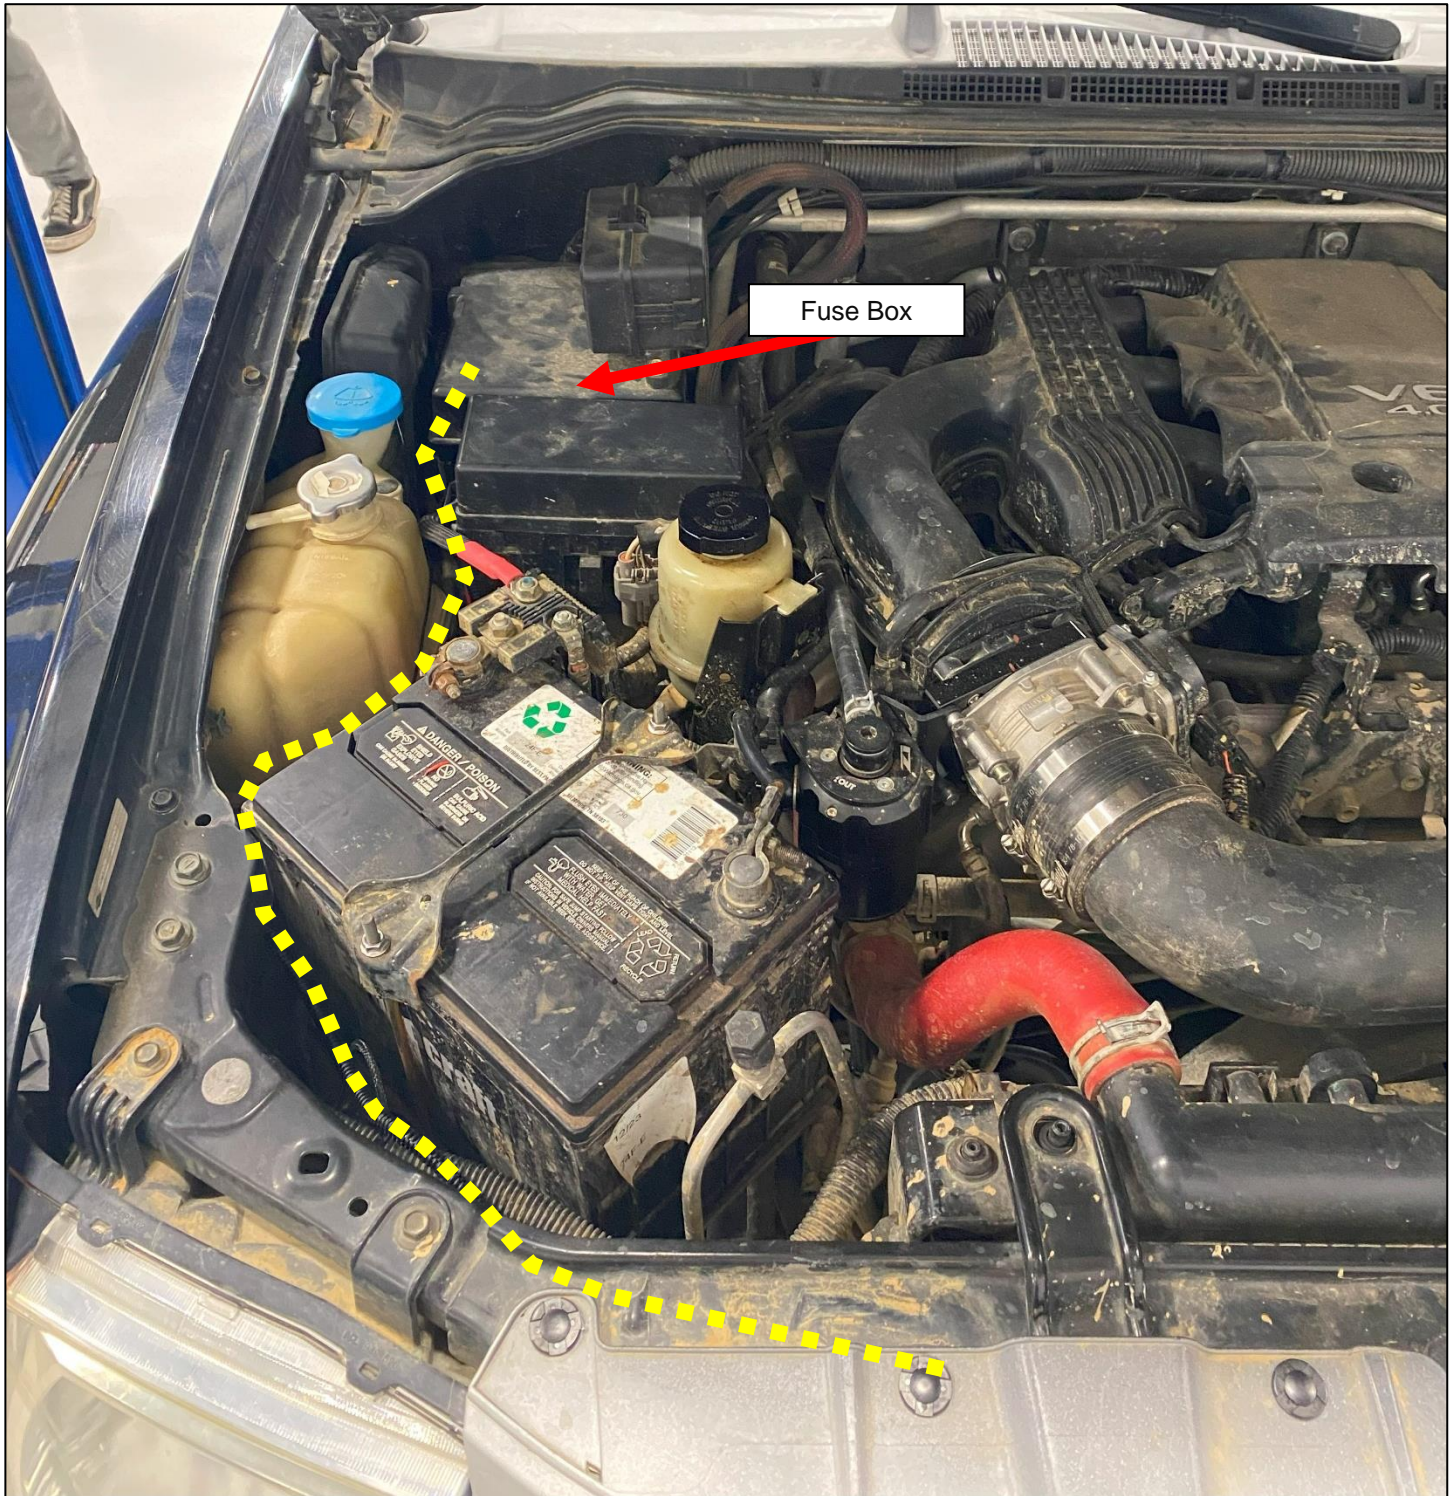

Figure 6
9. Your desired setup will determine how to run the Power and Ground wires from the main Wiring Harness. We ran ours to the Fuse Box in the passenger side of the engine bay. Run the wires to the Fuse Box and avoid any moving parts of the engine or sharp corners that can cut/wear the Wiring Harness. *Figure 6.*